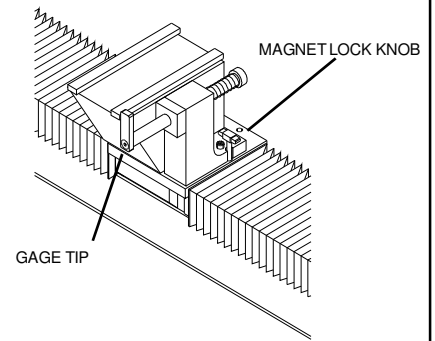

FIG. 21
1. Pull both gage tips forward and rotate to lock into position. Loosen the magnet lock knob and on the right side magnet assembly. See FIG. 21. Set the bedknife / bedbar assembly to be ground on the electromagnets. Move the right side magnet assembly until the alignment gage tips are at both ends of the bedknife, then tighten the right side magnet lock knob enough to secure the magnet.